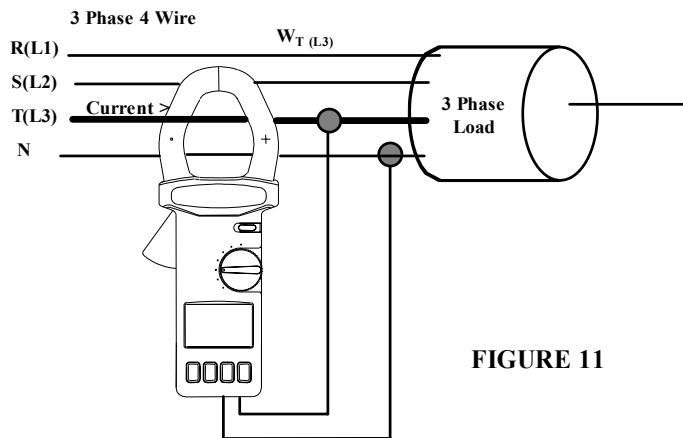

FIGURE 11
3. Thirdly, measure  $W_T$  (or  $W_{L3}$ ). See Fig. 11.